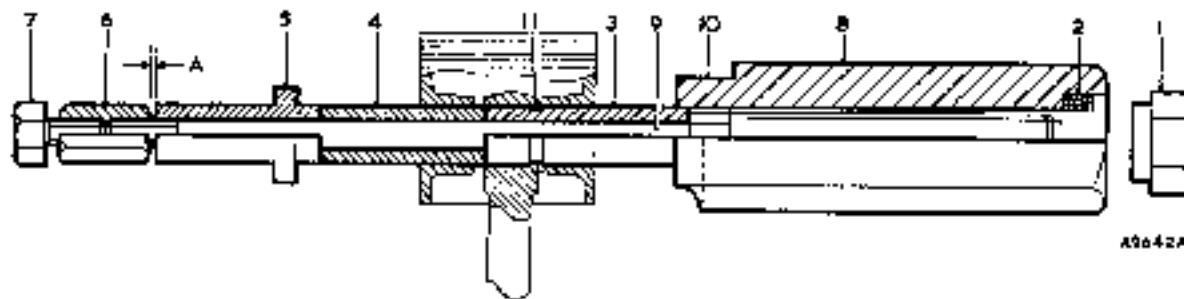

Fig. Aa.5
- (13) Remove the large nut (1) of Service tool 18G 1002, and pull the centre screw out a few inches as shown in Fig. Aa.5.
- (14) Slide the parallel sleeve (3), longer length diameter portion first, on to the centre screw up to the shoulder.
- (15) Place the piston on the connecting rod small end up to the undercut (11).
- (16) Smear the gudgeon pin with thin oil and slide it over the centre screw and into the piston bore up to the face of the connecting rod.
- (17) Slide the remover/replacer bush, short spigot towards the gudgeon pin, on to the centre screw.
- (18) Screw the stop nut (6) onto the centre screw, adjust the nut to give $\frac{1}{16}$ in. (.8 mm.) end-play, and lock the nut securely in position with the lock screw (7).